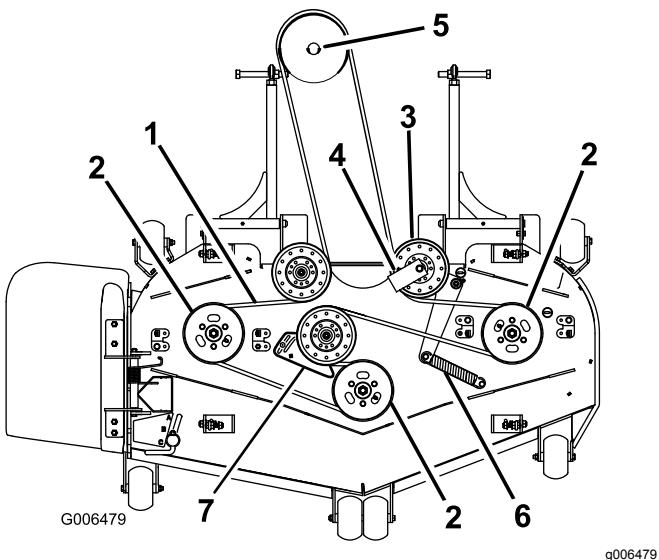
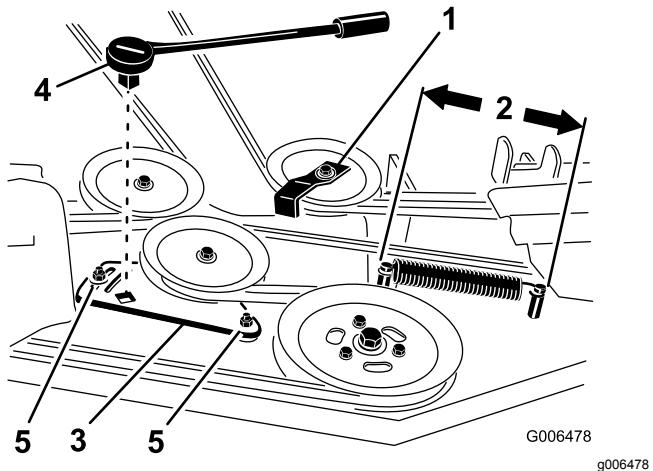

Figure 72
Figure 74
4. For 72-inch mowers, loosen the idler plate bolts holding the idler plate (Figure 74).
6. Remove the belt guide on the spring-loaded idler pulley shown in Figure 72 and Figure 74.
8. Install the new belt around the mower pulleys and the gearbox pulley under the engine (Figure 72).
4. Measure the spring length (Figure 74). If the spring length is between 25.4 to 26 cm (10 to 10-1/4 inches), from post to post, no adjustment is needed.
5. Loosen the bolts holding the idler plate (Figure 74).
6. Insert a ratchet or breaker bar into the square hole in the idler plate to adjust the tension (Figure 74).
7. Rotate the ratchet or breaker bar to move the idler plate until the idler spring is between 25.4 to 26.0 cm (10 to 10-1/4 inches) from post to post as shown in Figure 74.
8. While holding the belt tension and spring length, tighten the idler plate bolts that secure the idler plate (Figure 74).